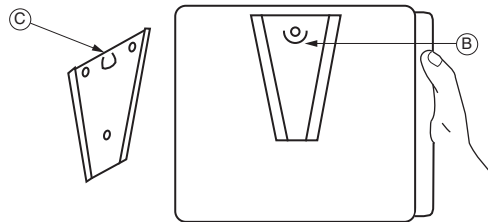

FIGURE 2
3. Position dispenser so that edges of back plate (B) fit into grooves of wall plate and then press dispenser down into place (See Figure 2).
4. Tighten locking-screw against washer. Dispenser locks into place when point of locking-screw is lodged under lug (C) of wall plate (See Figure 2).